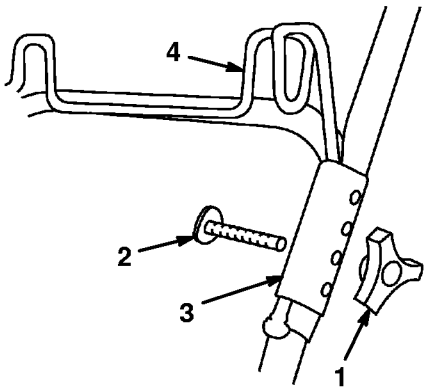

Figure 41
1. Remove knob and bolt securing left side upper and lower handle sections (Fig. 41).
1. With the engine off, remove bag from rear bag hanger. Remove bolt(s) and knob(s) securing hanger clamps to handle sections (Fig. 41). Hanger clamps have four adjustment holes.